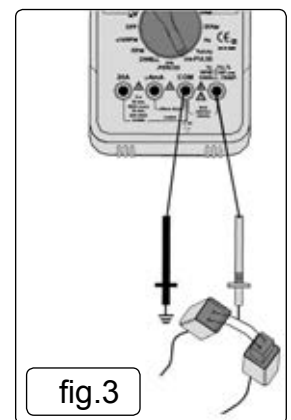

fig.3
- 5.8.4. Touch the test probes in series (fig.3.) with the circuit under test and read the current on the display.